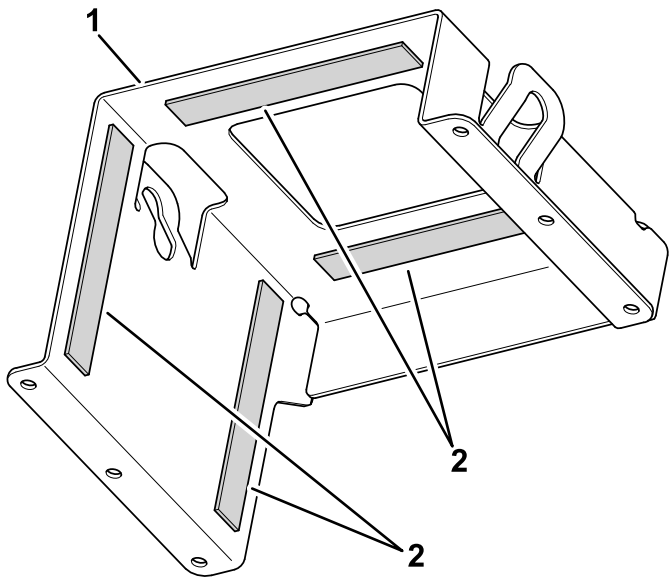

Figure 11
1. Install 5 foam strips (19 cm or 7.5 inches) to the top strap bracket (Figure 11).